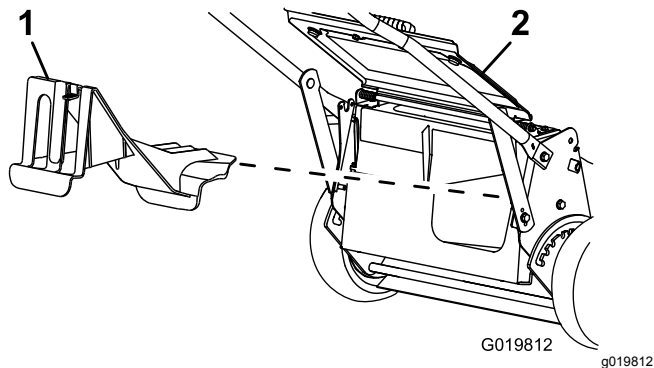

Figure 23
- If the rear-discharge plug is not installed, grip it by the handle, raise the rear door, and insert it into the rear-discharge chute until the latch locks into place; refer to Figure 23.
2. Remove the rear-discharge plug by pulling down on the latch with your thumb and pulling the plug out from the machine (Figure 23).